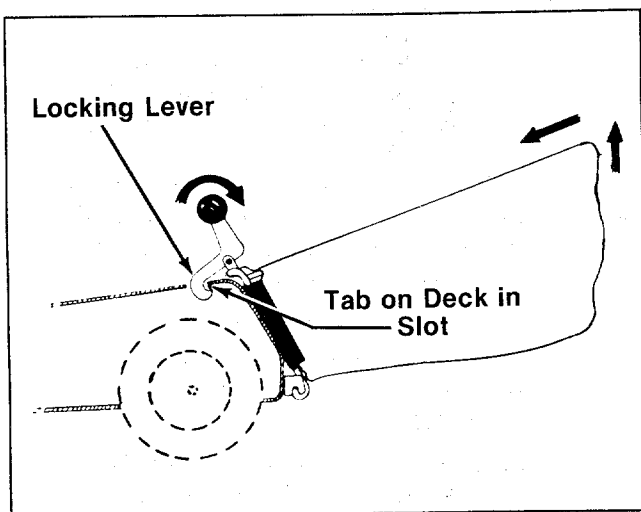

FIGURE 15.
2. Lift off grass catcher. See figure 15.